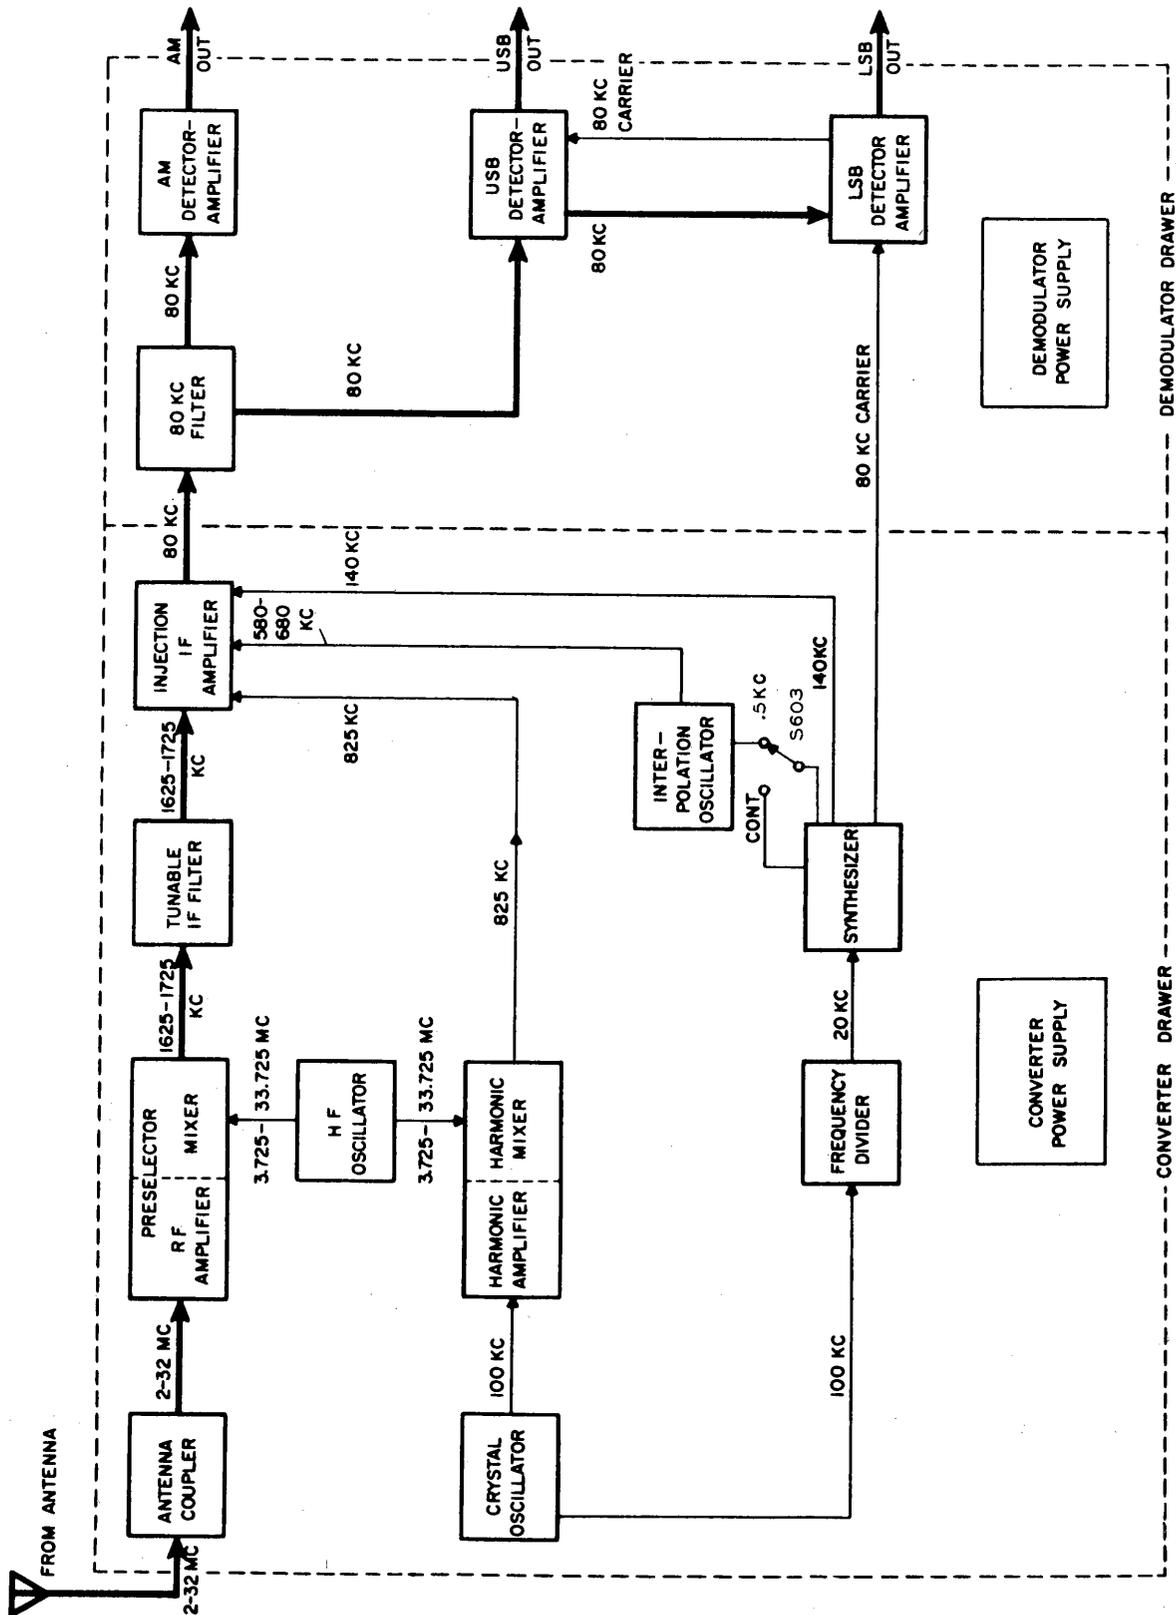

Figure 4-2. Radio Receiving Sets AN/WRR-2A and AN/FRR-59A, Functional Block Diagram
c. FUNCTIONAL OPERATION.—Figure 4-2 is a block diagram showing the converter and demodulator as separate major units. The main signal path through the various assemblies is indicated by a heavy line.
(1) CONVERTER.—An RF signal from the antenna is applied to the antenna coupler, which provides three degrees of signal attenuation for optimum performance under strong signal conditions. The output of the coupler goes to the preselector, where it is amplified and applied to a mixer. Here it is combined with a locally generated RF signal from the high-frequency oscillator to produce the first IF signal at a frequency between 1,625 kc and 1,725 kc. This frequency is selected by the tunable IF filter and applied to the injection IF amplifier, which in turn produces the 80 kc signal to be applied to the demodulator. The injection IF amplifier performs intermediate-frequency amplification and two frequency conversions—the first from 1,625-1,725 kc to 220 kc and the second from 220 kc to 80 kc.
(2) DEMODULATOR.—In the demodulator the 80 kc filter receives the signal and distributes it to the amplitude-modulated (AM) and upper-sideband (USB) detector-amplifiers. The latter supplies the 80 kc signal to the lower-sideband (LSB) detector-amplifier.
detected. Several stages of audio amplification follow. A beat-frequency oscillator (BFO) is also included for reception of CW signals. Audio limiting, silencing, and automatic gain control (AGC) circuits are also included but are not shown in figure 4-2.
(b) USB DETECTOR-AMPLIFIER.—In the USB detector-amplifier the 80 kc signal is amplified and applied to a ring-type demodulator where it is mixed with an 80 kc carrier to produce an audio output. A two-stage audio amplifier, and an AGC circuit are also included but not shown in figure 4-2.
(c) LSB DETECTOR-AMPLIFIER.—In the LSB detector-amplifier the 80 kc signal is amplified and also applied to a ring-type demodulator, similar to that in the USB. A two-stage audio amplifier, and an AGC circuit are also included but not shown in figure 4-2.